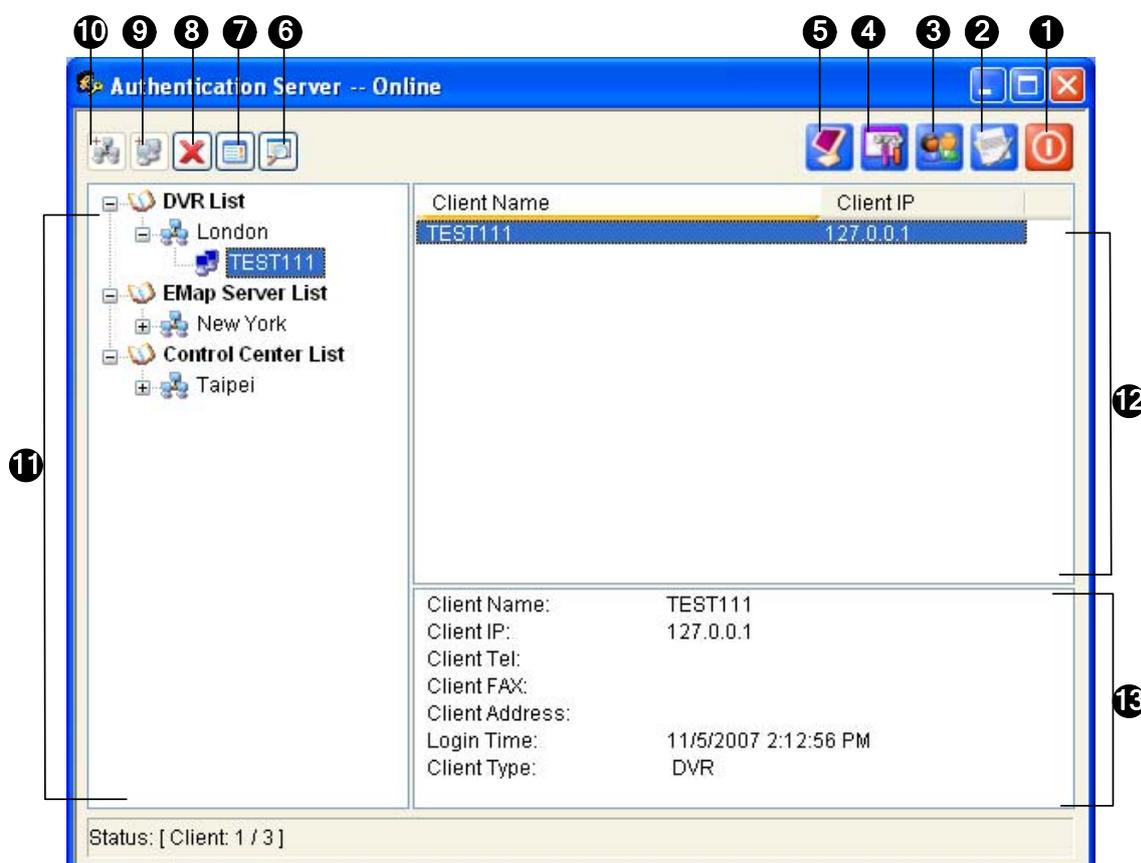

Figure 10-24 The Authentication Server Window
1. To create a group, click the **Add An Area** button (No.10, Figure 10-24).
2. To create a client under the group, click the **Add A Client** button (No.9, Figure 10-24). This displays the Client Information dialog box.
1. Click the **Password Setup** button (No.3, Figure 10-24) to display the Password Setup window. The window is the same as the Password Setup window in Main System, except the following section.
1. Click the **Server Setup** button (No. 4, Figure 10-24). This dialog box appears.
3. Click the **Start/Stop Service** button (No. 5, Figure 10-24) to start the connection.
In the Authentication Server window (Figure 10-24), right-click **E-Map Server List** or **Control Center List**, and then select **Add A Client**. Type the name and information of this added E-Map Server or Control Center in the Client Information dialog box.